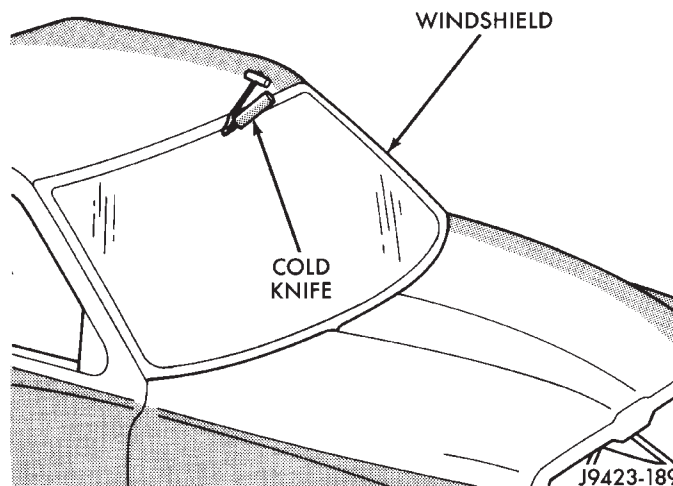

Fig. 1 Cut Urethane Around Windshield
- (1) Remove rear view mirror.
- (2) Remove wipers and cowl grille.
- (3) With doors open, remove the weatherstrip from the side windshield moldings.
- (4) Remove the screws attaching the side windshield molding to the A-pillars.
- (5) Cut urethane bonding from around windshield using a suitable sharp cold knife (Fig. 1).
- (6) Using a long knife, cut urethane bonding from inside the cab at the base of the windshield.